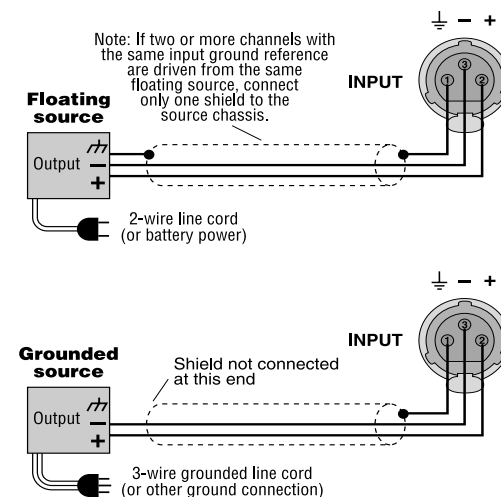
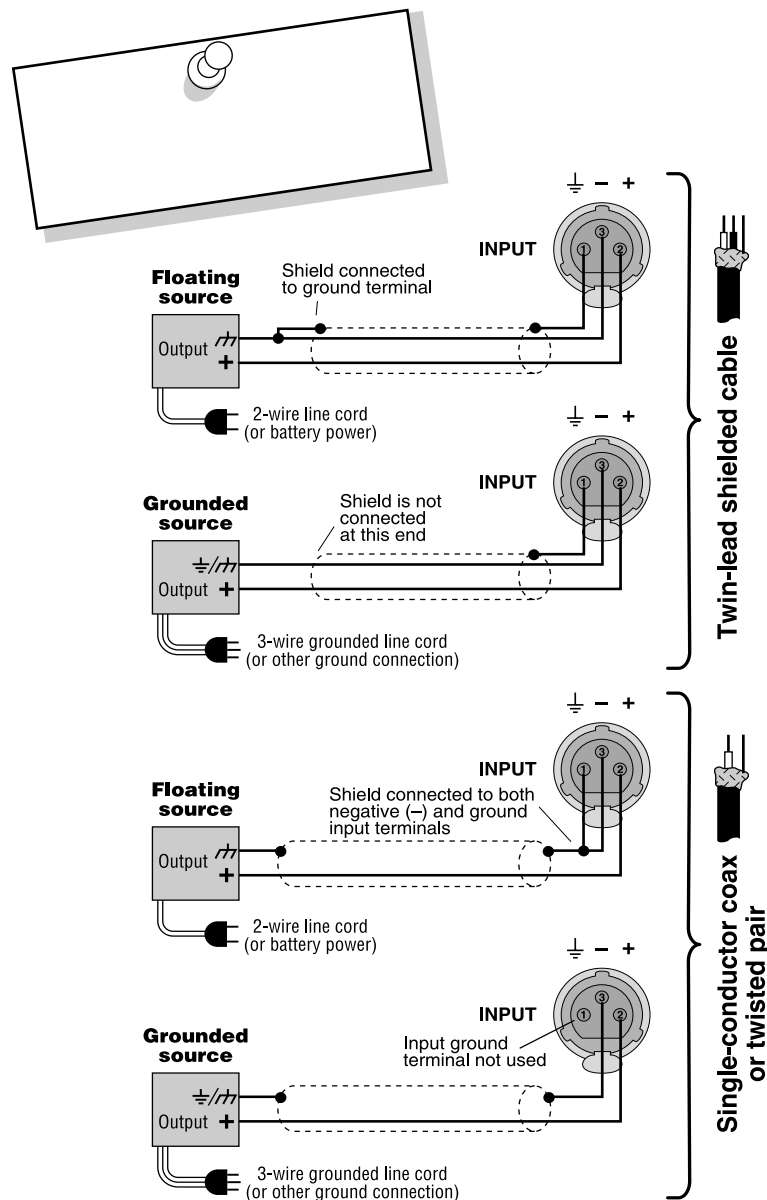

Fig. 4.2 Balanced Input Wiring
Fig. 4.3 Unbalanced Input Wiring
If you have noticeable hum or buzz in your system, you may want to check your cable connections to see if the unwanted noise is being introduced via a ground loop. To determine the proper wiring, first check whether the output from your source is unbalanced or balanced (if you don't know, refer to the unit's back panel or instruction manual). If the source is balanced, refer to Figure 4.2; if it is unbalanced refer to Figure 4.3. Next, determine if the source's power cable is floating (ungrounded, 2-prong) or grounded (3-prong). Finally, if the source is unbalanced, check the type of wiring: twin-lead or single coax.
2. Unless you are interfacing to a microphone, the shield of the cable should be connected only at one end. (See Fig. 4.2.)
Check Figure 4.2 to see if your cable has been wired with the proper shield and ground connection. If the cabling is incorrect, you may be able to avoid the ground loop (and associated hum) by plugging all of your equipment into the same AC circuit (on the same breaker). If this is impractical, you will need to fix the cable to match the appropriate illustration. Or you may want to simply replace the offending cable with a commercially manufactured cable of the appropriate type.